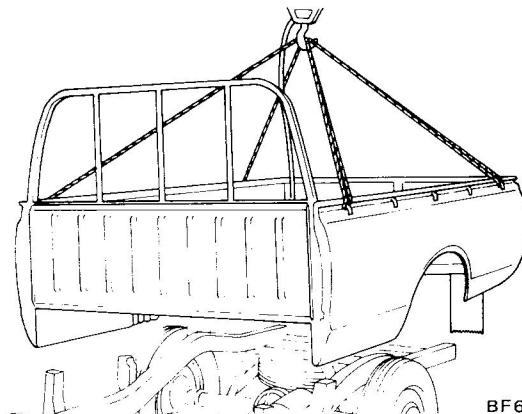

Fig. BF-52 Lifting up rear body
6. Attach lifting ropes to hooks in rear body as shown in Figure BF-52, and lift up rear body slowly and carefully.